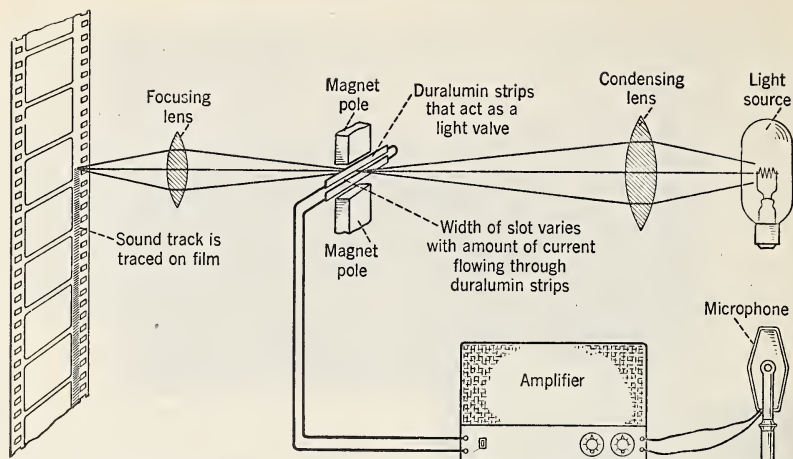

FIG. 518. A light valve used in adding sound recording to a picture film.
2. The corresponding electrical currents are then amplified and passed through a *light valve*. (See Fig. 518.)